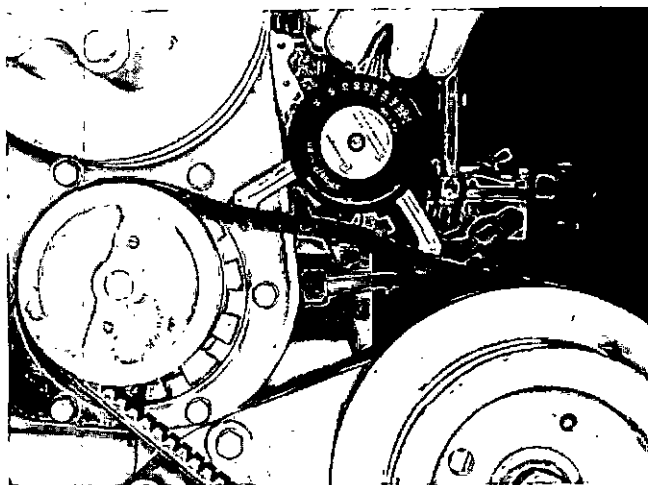
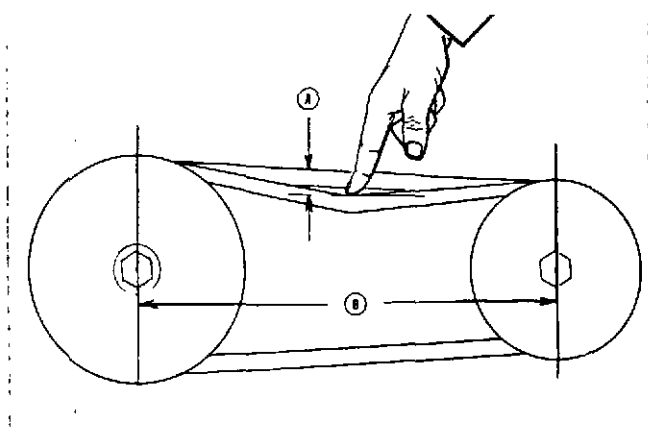

Fig. 5-28, N11969. Checking belt tension with ST-1138 Gauge
Fig. 5-29, N11471. Checking belt tension manually
- h. Check the belt tension with applicable Belt Tension Gauge, Fig. 5-28. Correct tension is 90 to 110 pounds as indicated on this gauge. If gauge is not available, apply pressure of the index finger at center of the longest span of belt. Deflection should be one belt thickness per foot of pulley center distance. Fig. 5-29. See Table 5-3.
5. Rotate the water pump body counterclockwise to adjust belt tension. Adjust tension with applicable gauge; correct tension is 90 to 110 pounds as indicated on this gauge. If gauge is not available, apply pressure of the index finger at center of the longest span of belt. See Table 5-3 and Fig. 5-29.